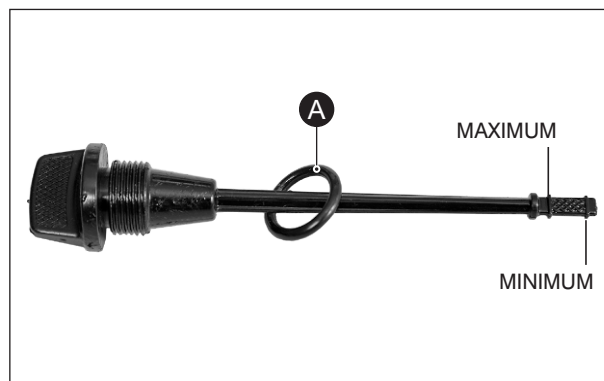

Fig. 2.33
- Check the oil level. The oil level should be between minimum and maximum levels. (Fig. 2.33)